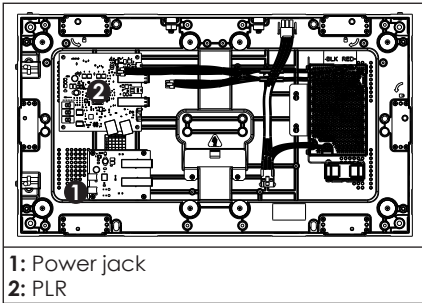

Figure 38: Connect Harness
3. Connect the harness (W-3881316) to the fiber converter assembly and the PLR power jack (if a PLR is installed in the panel). Refer to **Figure 38**.